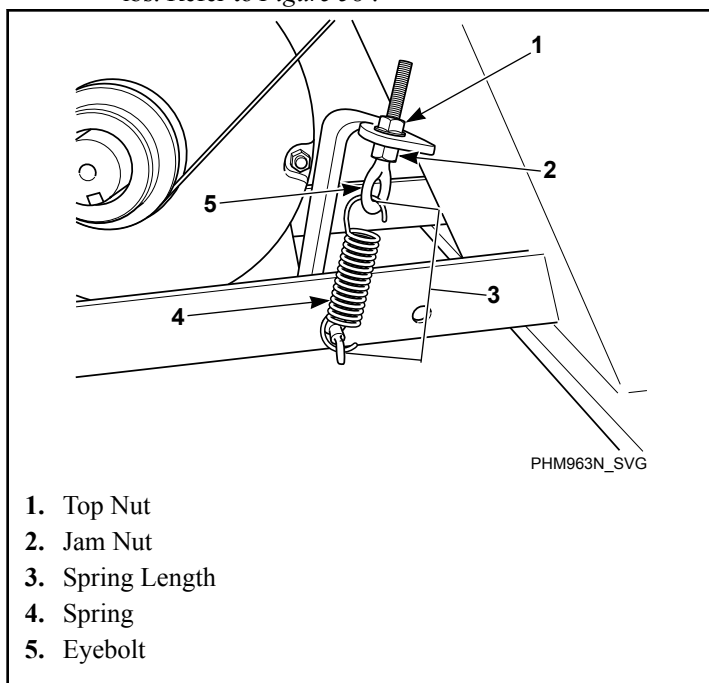

Figure 58
- **Frequency Gauge.** Tighten eyebolt top nut until the correct frequency (refer to *Table 43*) is obtained mid-span. Torque jam nut to spring bracket to 20.6 ± 2 ft.-lbs. Refer to *Figure 58* .
- **Tension Gauge.** Tighten eyebolt top nut until the proper belt gauge (refer to *Table 43*) is obtained mid-span. Torque jam nut to spring bracket to 20.6 ± 2 ft.-lbs. Refer to *Figure 58* .
hooks. Refer to *Table 42* . Torque jam nut to spring bracket to 20.6 ± 2 ft.-lbs. Refer to *Figure 58* .
- **Maintain Tension During Belt Removal.** If proper tension is achieved, tape the jam nut in place and loosen eyebolt top nut to release the belt. Replace belt and retighten eyebolt top nut back to jam nut position. Refer to *Figure 58* .